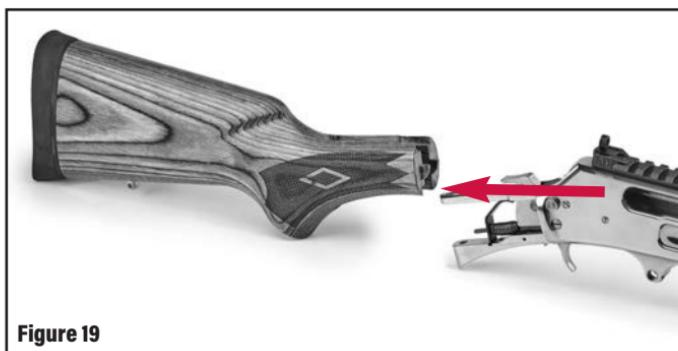

Figure 19
11. With a firm grip on the receiver and butt stock, pull the butt stock from the receiver. See Figure 19.